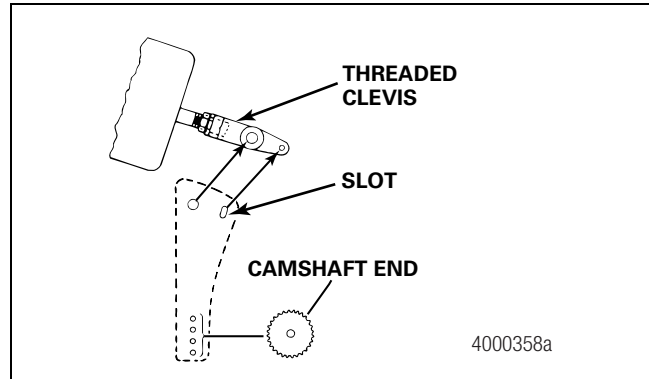

Figure 5.21
- If the small clevis hole doesn't align within the slot:** Adjust the clevis until you can see the small clevis pin hole within the slot. Figure 5.21.